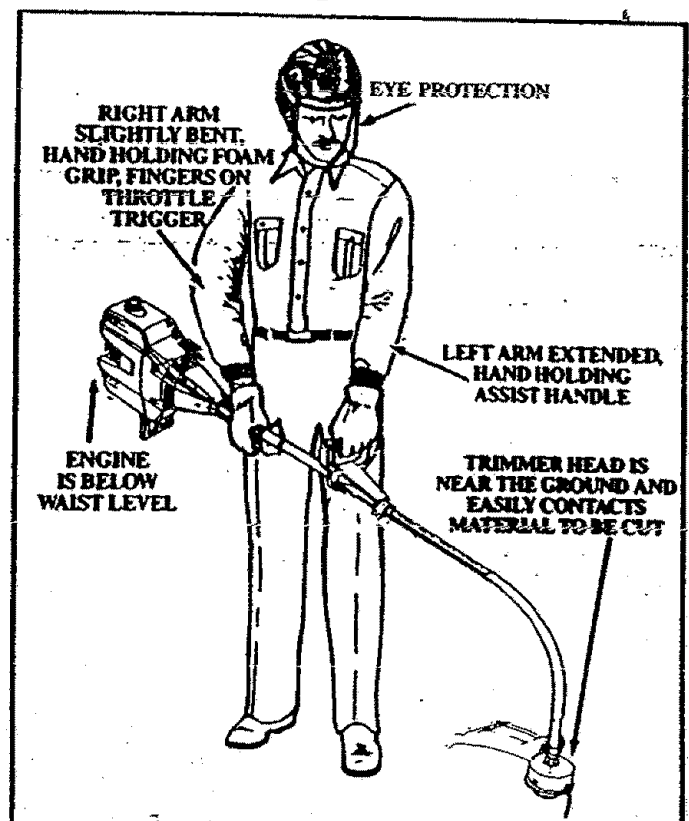

Figure 10
6. OPERATING POSITION -- Figure 10
a. Before starting the Engine, stand as shown in Figure 10 and check for the following: